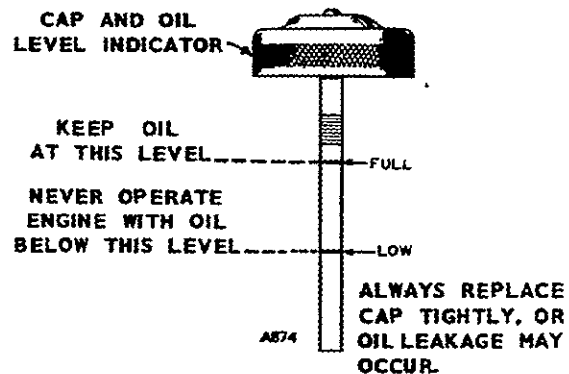

FIGURE 1. OIL LEVEL INDICATOR
**Crankcase Oil:** Be sure the crankcase has been filled with oil to the "FULL" mark on the oil level indicator, Figure 1. Use oil with the API (American Petroleum Institute) designation SE or SE/CC. Do not use an oil with the designation CD unless it is also designated SE and the oil manufacturer certifies it will perform satisfactorily in gasoline engines.